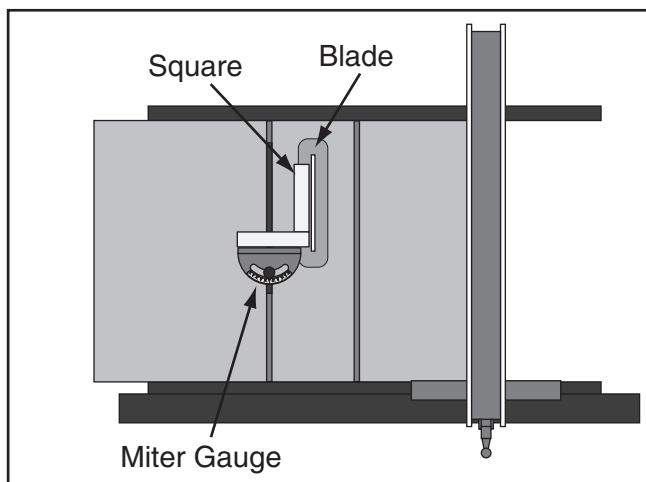

Figure 127. Checking 90° stop on miter gauge.
5. Place the square evenly against the face of the miter gauge and the blade, as shown in **Figure 127**.